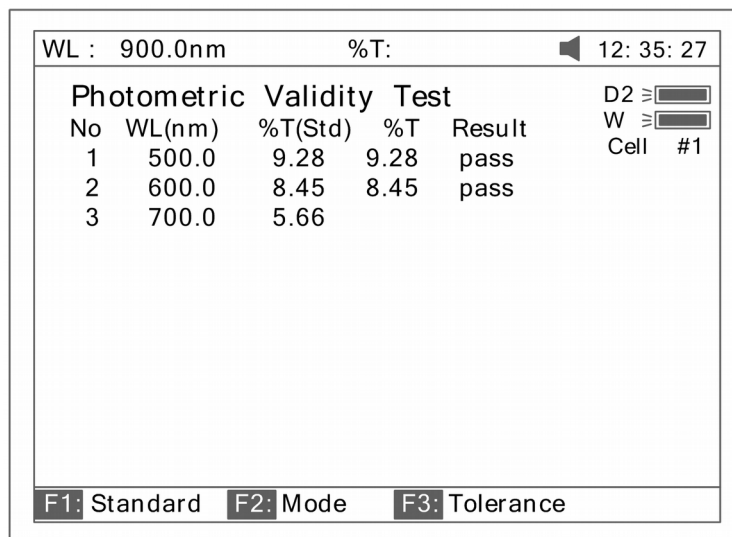

Fig 94
6. Put the sample (calibrated neutral density filter) into Main Light Path. Press **(START)** to check. The results will be displayed on the screen (Fig 94). If the discrepancy between the results and the calibrated standards is not more than the tolerance, "pass" will be displayed after the test result. Otherwise, "fail" will be displayed.